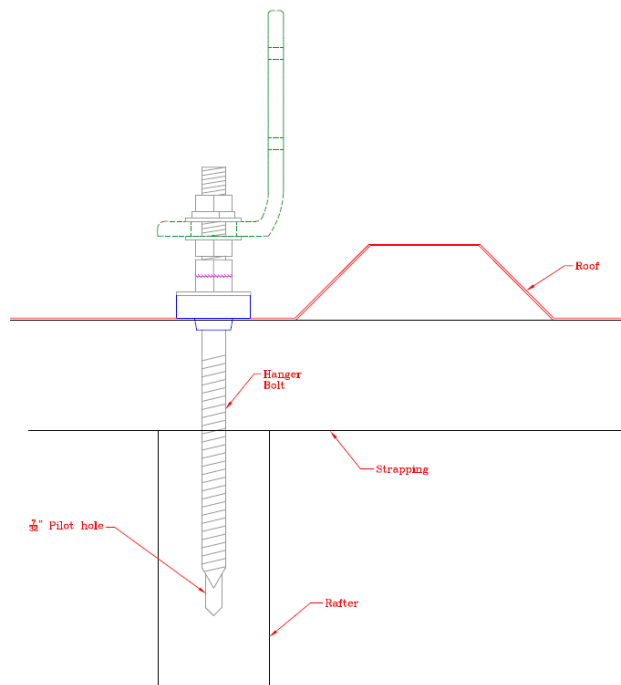

Figure 30 Hanger Bolt Trough Installation
- a) If you are installing into the lower portion (Figure 30 Hanger Bolt Trough Installation) of the roof, skip Step 1 and continue to Step 2